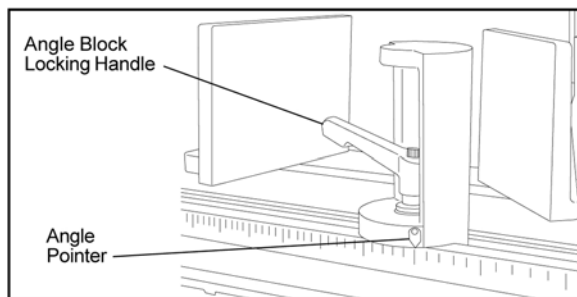

Figure 7: Angle setting block
2. Turn the locking handle on the round, angle-setting block counterclockwise to unlock the block. Slide the block until the pointer on the block is aligned with desired angle (see Figure 7). Tighten the locking handle to set the angle.